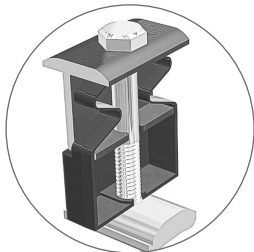
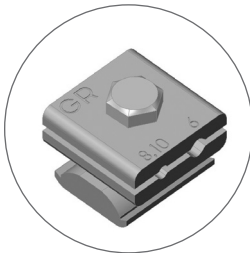

figure 4
figure 5
**7-4:** Equipment Grounding - Tamarack Rails and PV modules are bonded by 50-50 Module Clamps (figure 4) and rail splices. The 50-50 clamps achieve bonding to the module frames by stainless-steel teeth in the clamping surface, which penetrate module frame coatings. One Ground Lug (figure 5) is required for each column of PV modules and can be attached at any location on either of the module support rails. Connect all ground lugs to the ground wire in the system (figure 6) according to local code.